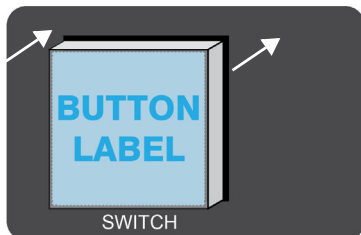

FIG. 5 Re-installing the key cap onto the pushbutton
4. To install the key cap back onto the target pushbutton, align the key cap with the pushbutton, and gently push the key cap down over the pushbutton (FIG. 5). Once seated properly on the pushbutton, the key cap will snap into place. Verify that the vertical orientation of the button label is correct relative to the DVX.